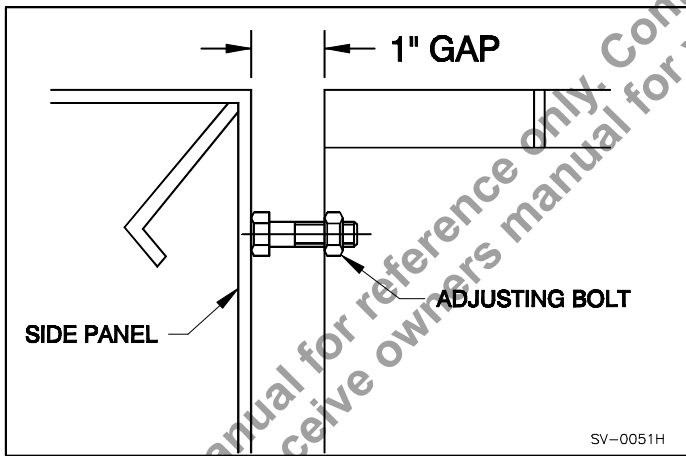

Figure 33: One Inch (1'') Gap
4. ___ Ensure there is a one inch (1”) gap between the deck and side pan curb angle. Confirm this on both sides of the dock leveler. Once the gaps are confirmed as correct, ensure the adjusting bolts are in contact with the side panels. See “Figure 33: One Inch (1”) Gap” on page 25. Use the adjusting bolts to increase the gap to 1” if required.
10. ___ Once the concrete is cured, remove the side adjusting bolts. (see “Figure 33: One Inch (1”) Gap” on page 25)